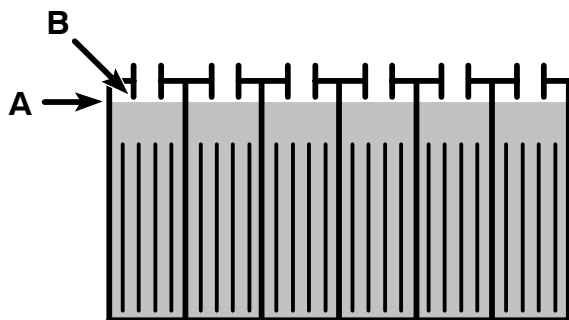

FIG. 32
- After charging, check the electrolyte level (A) again. The level should be approximately 1 cm from the bottom of the fill-port (B) (Figure 32). Add distilled water if needed. **DO NOT OVERFILL.**